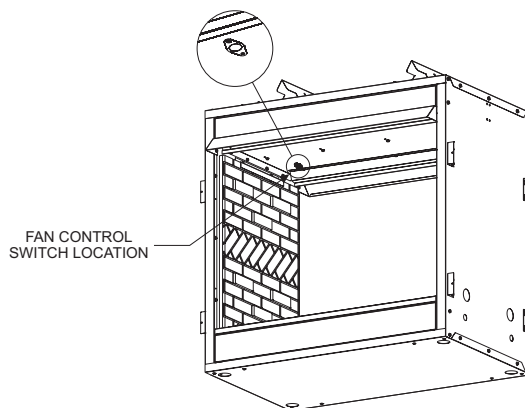

Figure 19
6. Next, find the fan control switch and wire assembly. Feed the wires through the hole at the top of the firebox. Feed the wires over the firebox top and down between the firebox side and outer wrap then, secure the fan control switch with (2) #6 screws provided. **See Figure 19.**